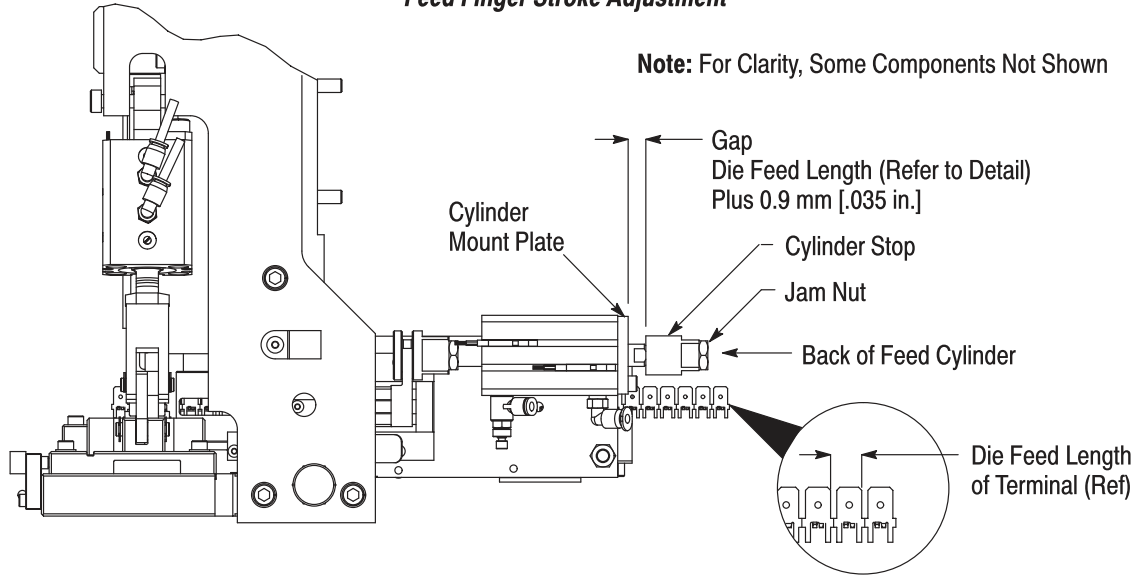

Figure 10
5.1. Feed Finger Stroke Adjustment (See Figure 10)